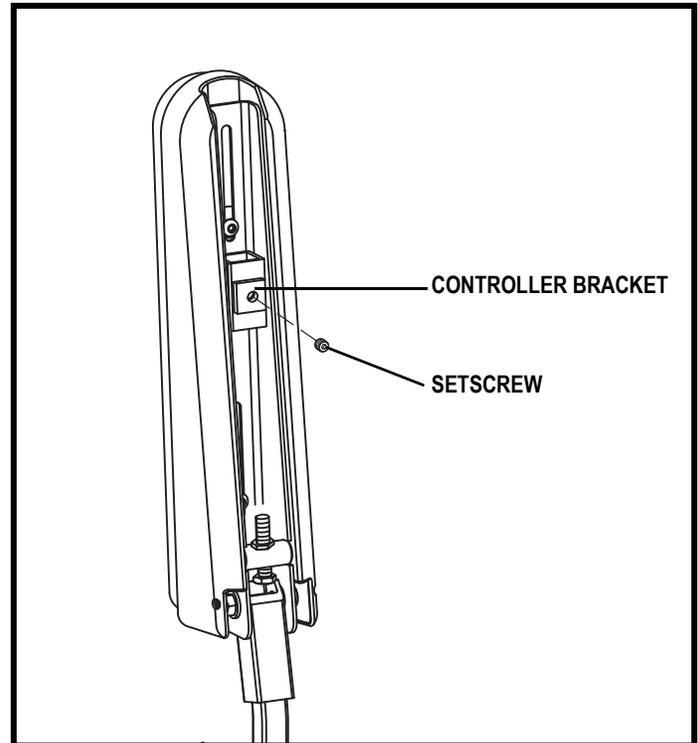

Figure 14. Underside of Armrest
2. Loosen the setscrew on the controller bracket. See **figure 14**.